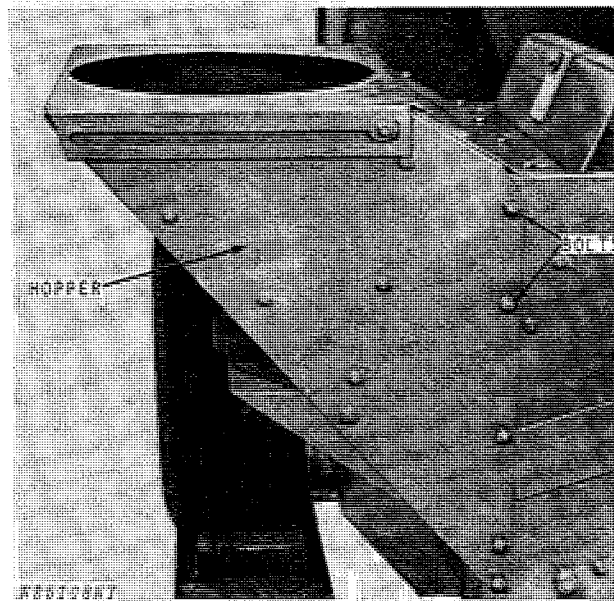

Fig. 3-Removing Hopper (Less Hay Attachment)
**IMPORTANT:** If hopper (Fig. 3) is equipped with a magnet, use a hoist or other lifting device to remove hopper.